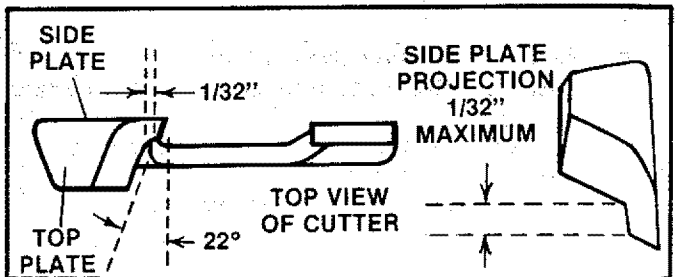

Figure 21
7. Maintain a 1/32" side plate projection. Figure 21.
4. Keep all cutters the same length. The side plates should always be kept approximately 1/32 of an inch longer than the top plate. Figure 21.